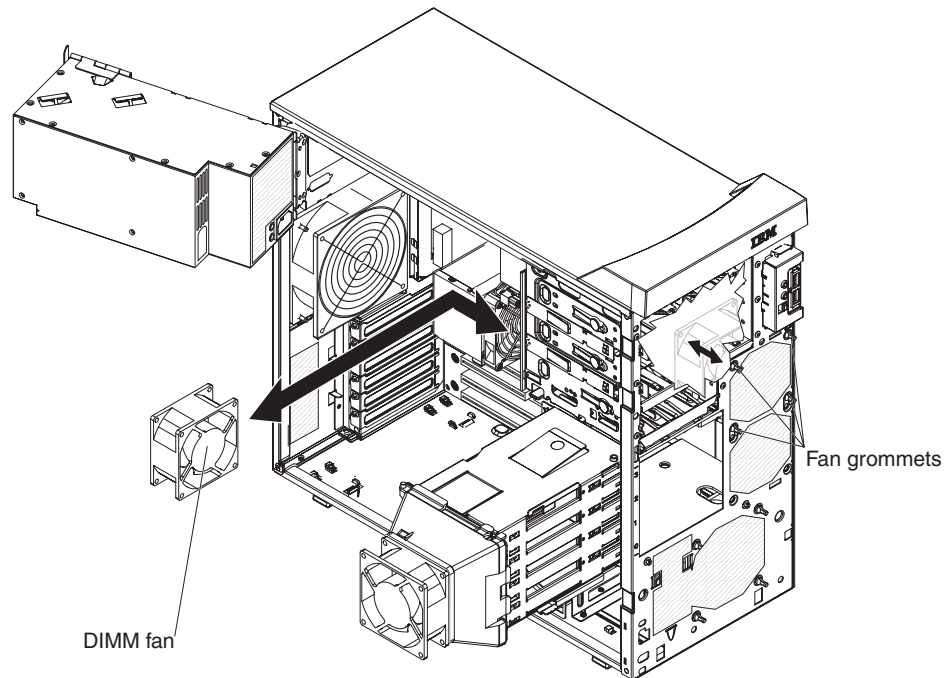

Figure 49. Removing the DIMM fan
10. Grasp the DIMM fan and pull firmly, extending the rubber extensions (grommets) that secure the fan to the chassis. Pull the grommets through the holes in the fan or chassis and remove them, or use side cutters to cut the grommets (see Figure 49).